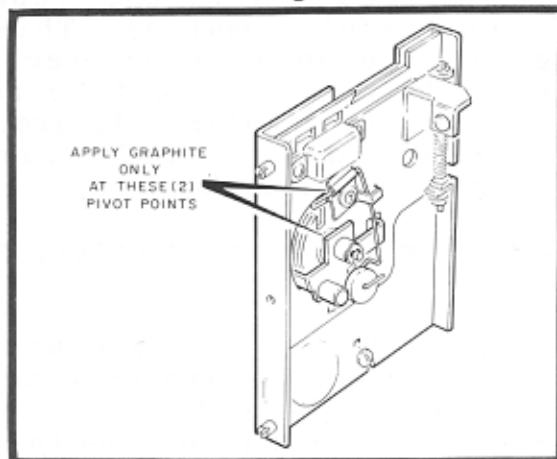

Fig. 39
6. Lubricate the cradle pivot pin, bushing, and counterweight pivot with a small amount of powdered graphite. DO NOT allow lubricant to reach any parts that will contact coins (see Fig. 39).